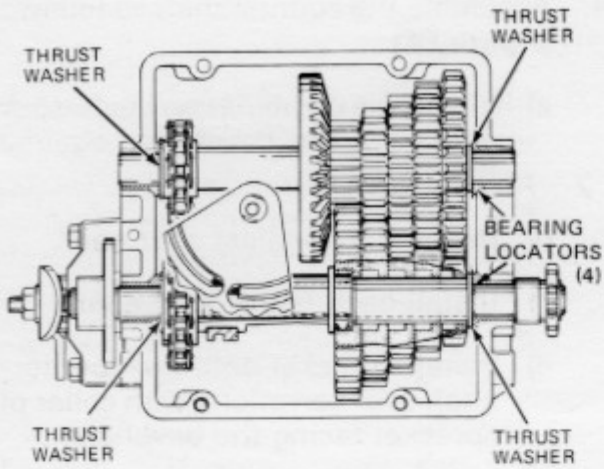

Figure 99
8. Install shaft assemblies into case, (Figure 99) utilizing piloting locators on bearings to properly align with notches in case.
9. Install shifter assembly (Figure 99) (shaft, pins and fan), and 12 oz. of E.P. Lithium grease around gearing, and reinstall cover on case. Torque cap screws 90-100 in. lbs.